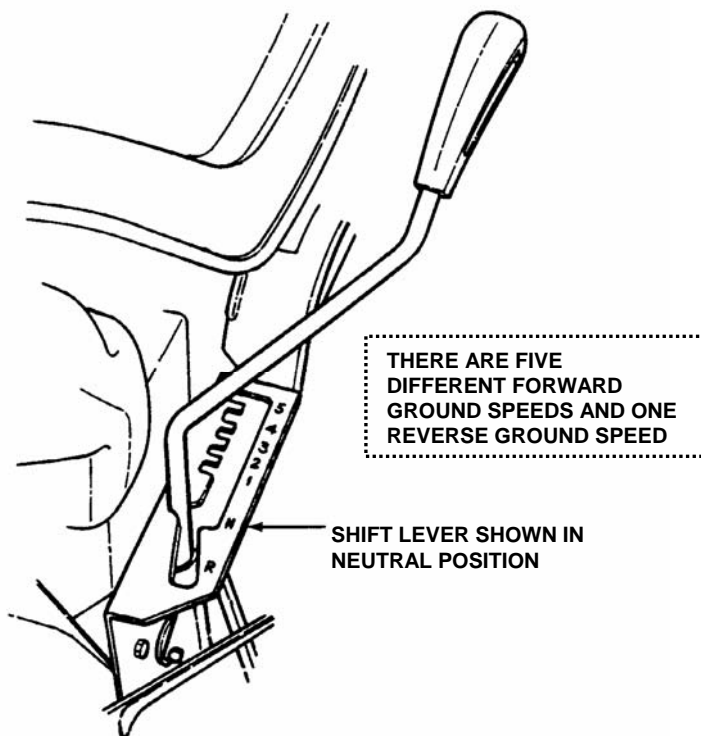

FIGURE 2.12
3. Place transmission shift lever in notch for first speed. See Figure 2.12.